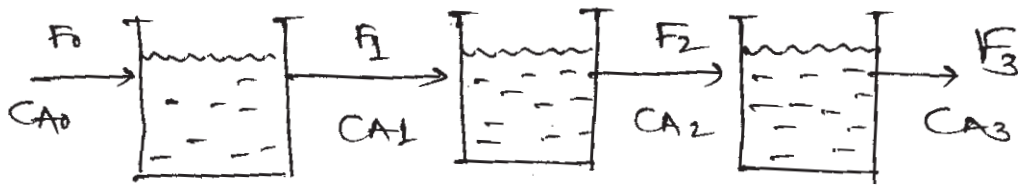

Fig. No. 05.
**Q4)** a) Derive the model of "series of 3-CSTR's" as shown in figure No. 05. [9]